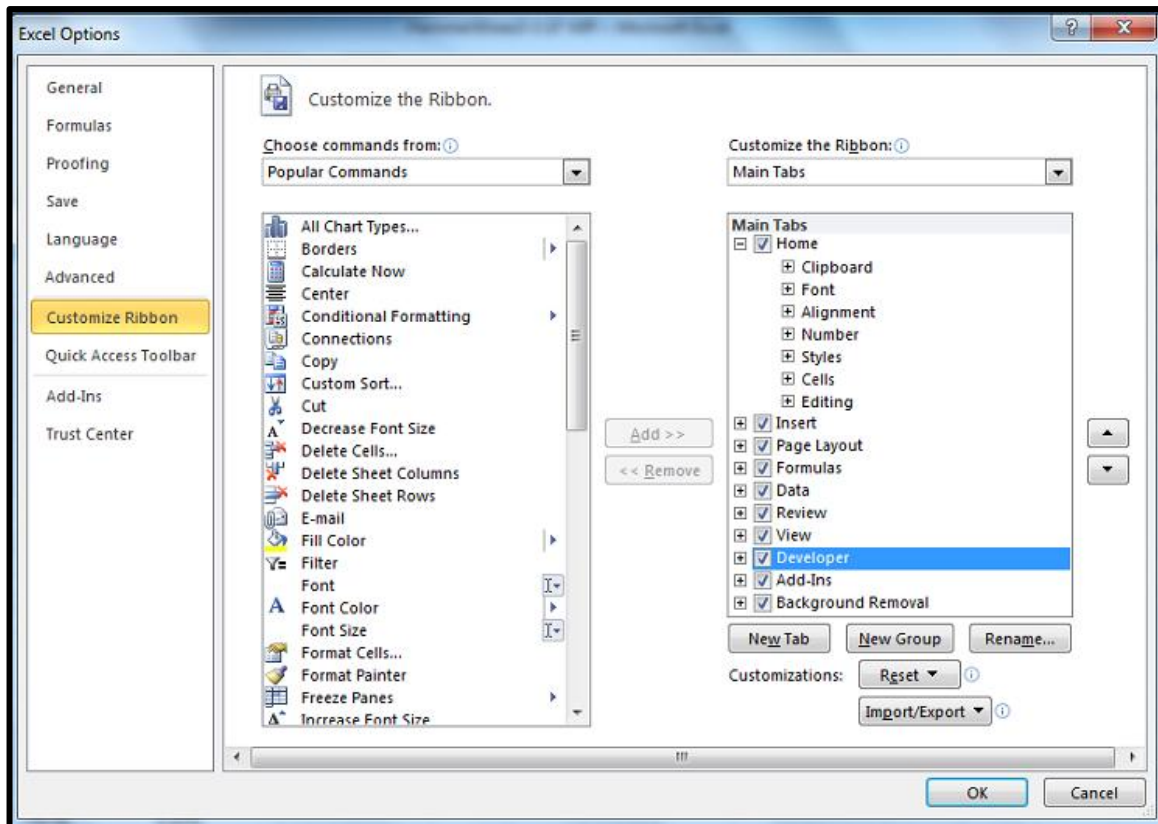

Figure 9 - Developer
- In **Excel Options** select **Customise Ribbon**, place a tick next to **Developer** then click **OK** (see Figure 9). Check the tabs to make sure the developer ribbon has been added.